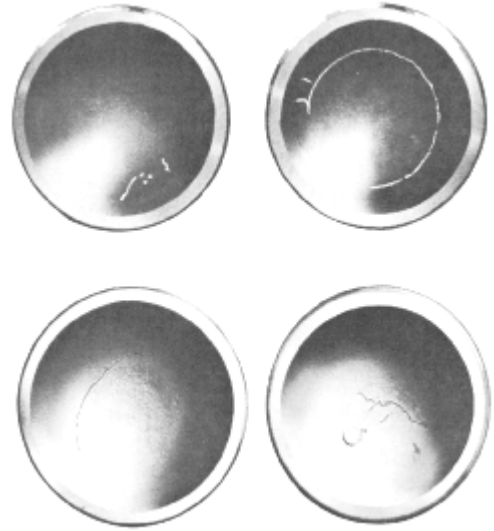

Fig. 2-18 - Cup Defects
1. Indications found in the cup area, Fig. 2-18, are defects which require rejection of a valve.